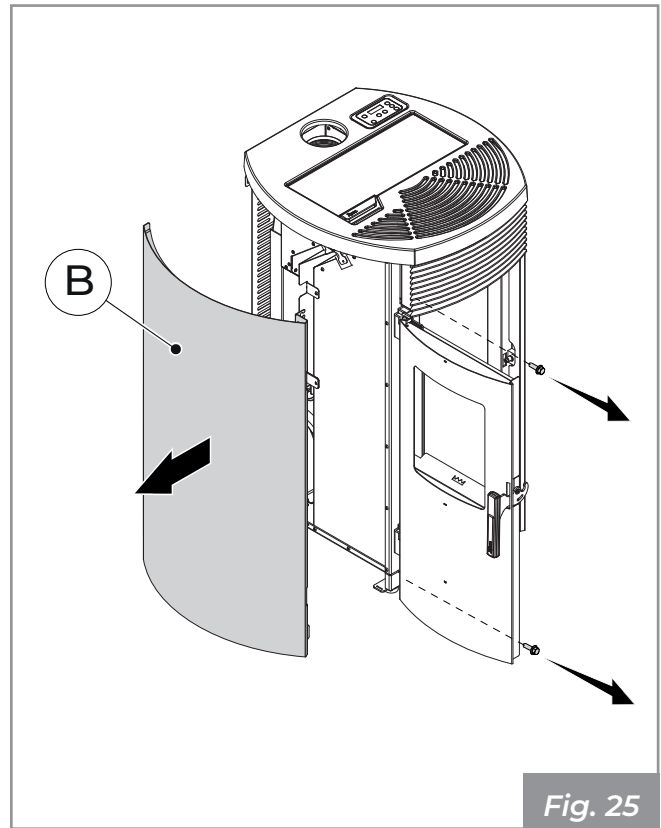

Fig. 25
- Open the door, remove the front screws that fix the left side (**B**) and remove the latter (**Fig. 25**).